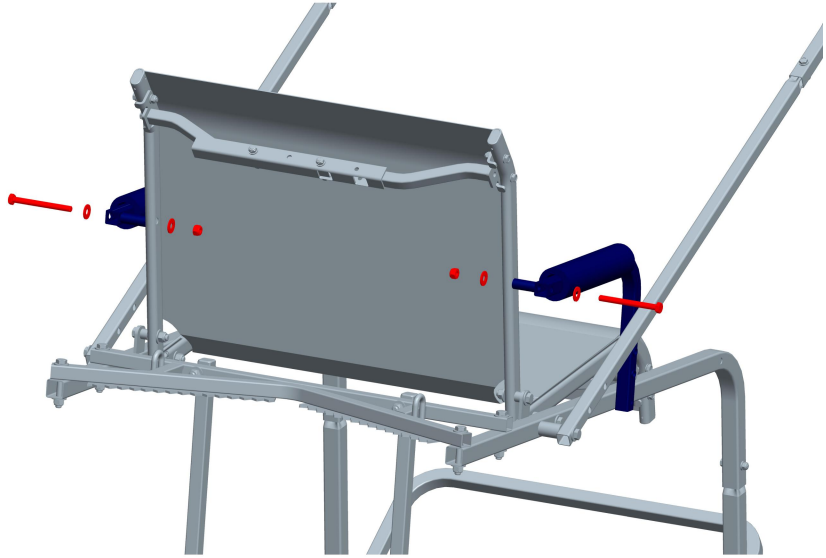

Figure 15
Install two Armrest to the Backrest using two(2) M8x85 Bolts, four(4) Steel Washers and two(2) Locknuts as shown in Figure 15. Securely tighten bolts.